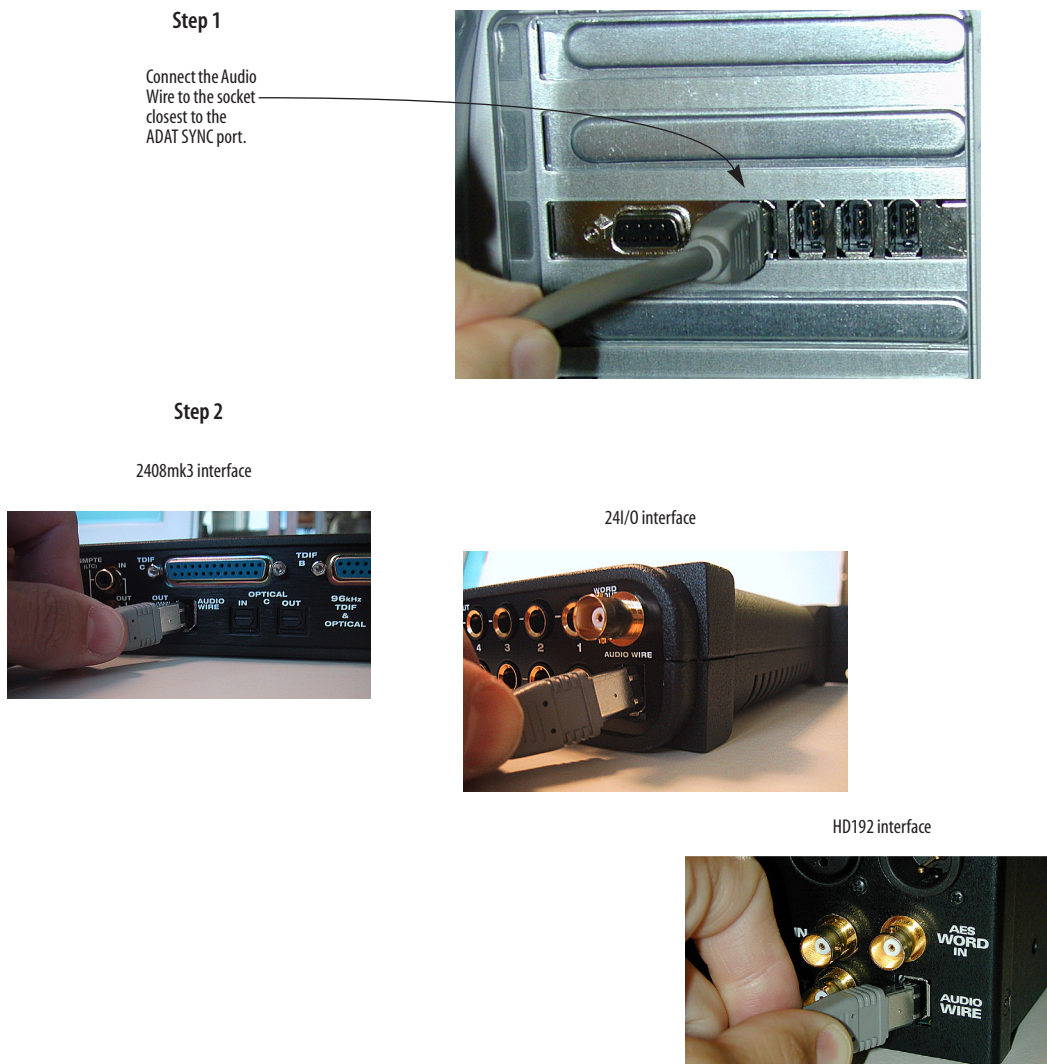

Figure 3-1: Connecting the audio interface to the PCIe-424 audio card.
- 1 Plug one end of the Audio Wire cable (included) into the Audio Wire socket next to the 9-Pin ADAT Sync connector on the PCIe-424 card as shown below in Figure 3-1.
- 2 Plug the other end of the Audio Wire cable into the audio interface as shown below in Figure 3-1.